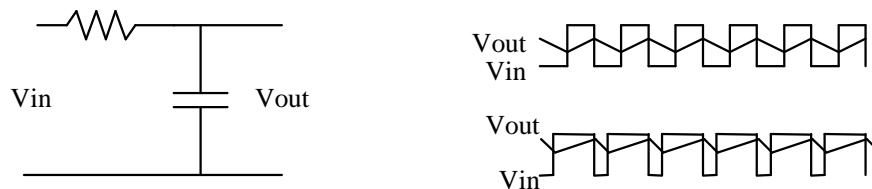

Figure 4. A simple RC low-pass filter converts duty cycle to voltage.
Figure 4 shows the output of a simple RC low-pass filter with a square wave input. Note that the second waveform has a higher duty cycle and therefore the filtered output is higher.
4. Calculate the constant  $K_d$  from Figure 4 and the fact that the voltage of the logic level high is 10v. The scale of  $K_d$  is  $\text{v}/\text{rad}$ . (Hint: 100% duty cycle corresponds to  $\pi$  rad phase shift and 0% duty cycle corresponds to 0 rad phase shift.)
5. Read the "Tasks to be completed in lab" section and explain how you will do part (1) and part (6). Just include something brief like, "I will use different values of  $V_{\text{in}}$  and measure the  $\text{Freq}_{\text{out}}$ , calculate  $K_o$ , and then average over the calculated values of  $K_o$ ".